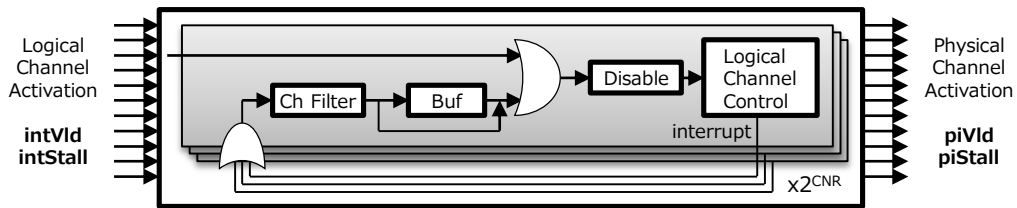

Figure 18 Outer and Inner Interrupt Activation
- The behavior of command replacement differs depending on whether it occurs at the time of activation or after activation. If Init = 1 at activation, all commands are replaced, and the initial parameters specified during activation are ignored. Since the activation register is also replaced, if the activation flag (Act) in the new activation register is 0, the operation will terminate immediately. Refer to Figure 18 for the flow diagram.